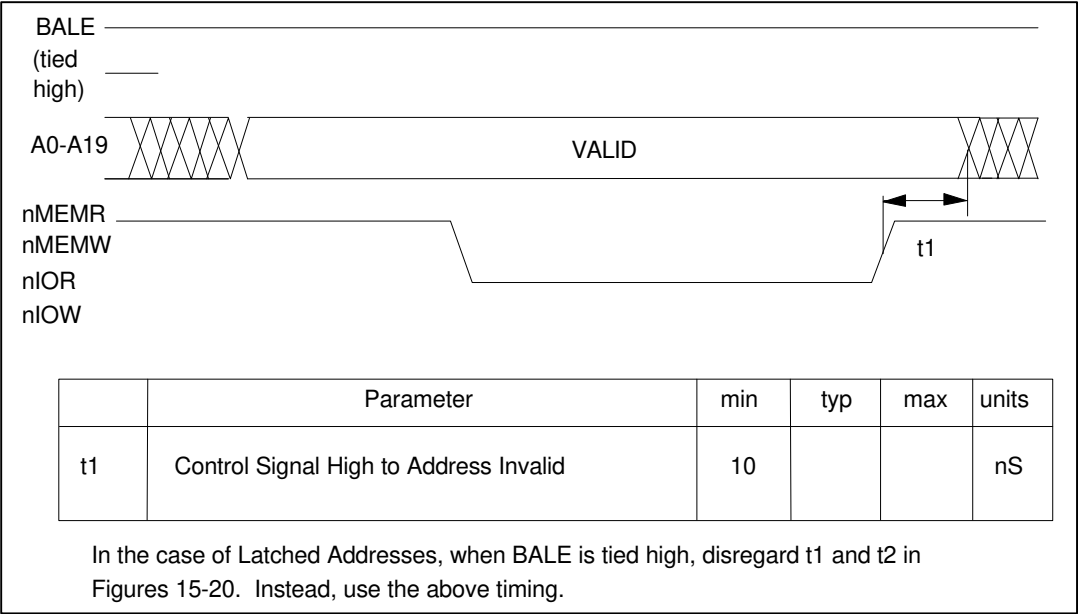

FIGURE 21 - LATCHED ADDRESS MODE
* For latched addresses, t1 and t2 do not apply. Please refer to Figure 21 for Latched Address Mode